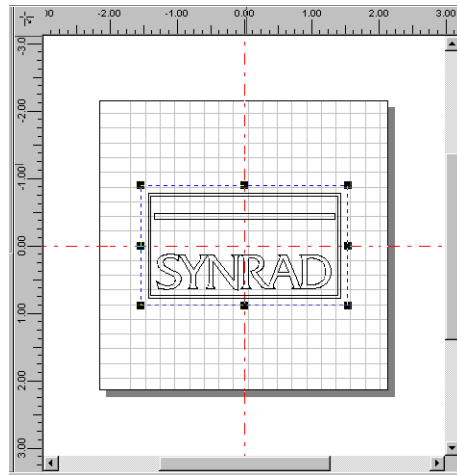

Figure 5-2 Sample imported graphic file
- 5 Select the *Synrad.eps* file and click *Open*. The SYNRAD logo appears on the *Drawing Canvas* (Figure 5-2).